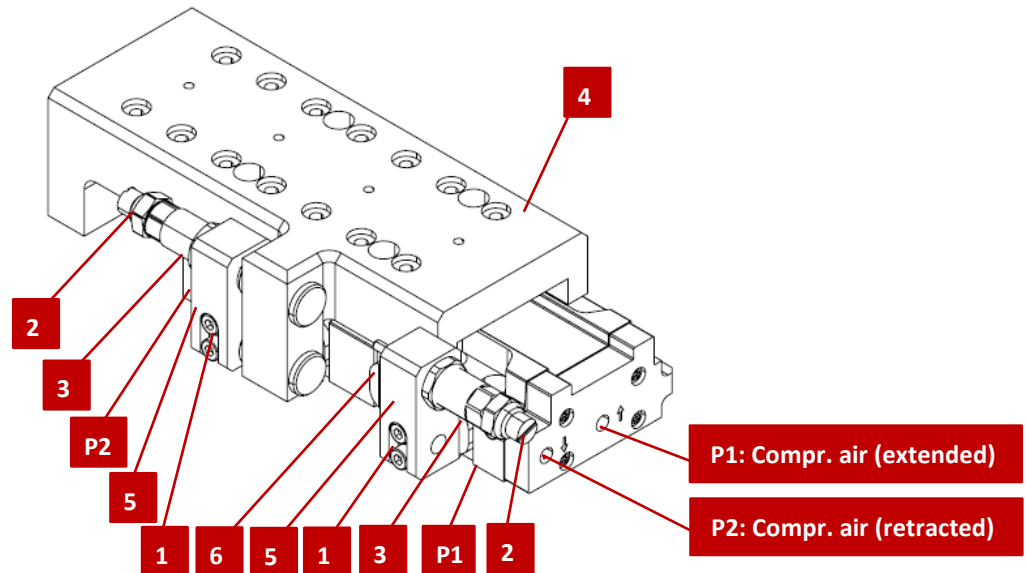

Fig. 26 Installation and adjustment of the compact slide
1. Connect compressed air to P1 (Fig. 26, P1) (slide extend).
2. Loosen screw (Fig. 26, 1).
3. Adjust the position by turning the stop sleeve (Fig. 26, 3).
4. Adjust shock absorber by turning (Fig. 26, 2).
5. Loosen screw (Fig. 26, 1a).
6. Connect compressed air to P2 (Fig. 26, P2) (slide retraction).
7. Loosen screw (Fig. 26, 1b).
8. Adjust the position by turning the stop screw (Fig. 26, 3).
9. Adjust shock absorber by turning (Fig. 26, 2).
10. Fasten screw (Fig. 26, 1b).